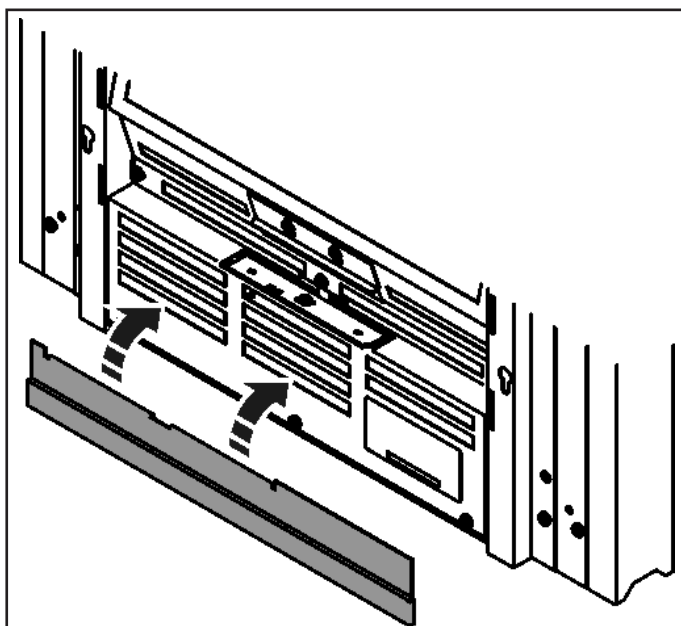

Figure 11.
1. Hook the cover plate onto the two lower slots at the front of the firefront (See figure 11).